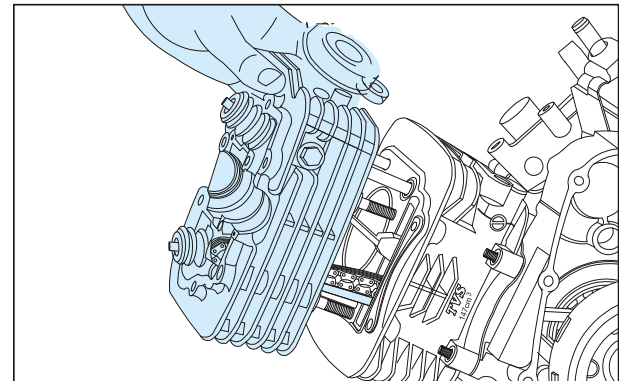

Fig. 3.60
- Holding the cam chain, gently lift the head complete cylinder as an assembly along with tensioner cam chain. (Fig. 3.60)